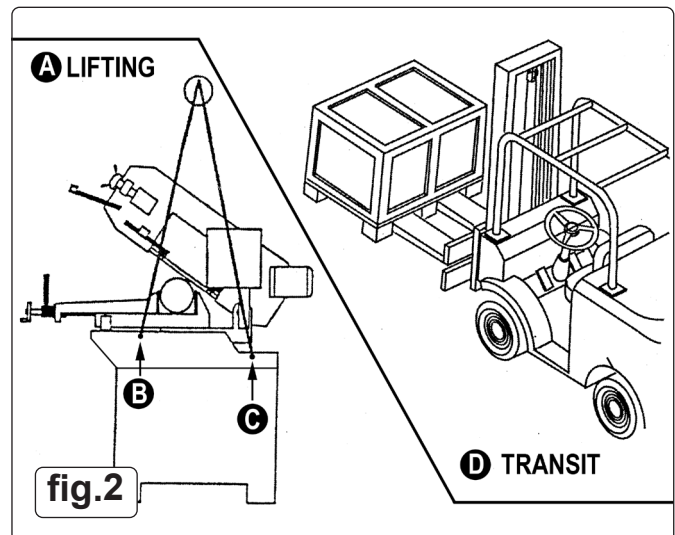

fig.2
- 4.1.2. A suitably rated crane used together with chains and shackles should be used to lift the machine onto the sheet metal stand and also to lift the whole assembly into its intended position. See lifting points B & C in Fig.2 above. Alternatively, slings can be used under the vice either side of the central pivot. Great care should be taken to keep the load level and to ensure that the slings **DO NOT** apply pressure to components that should not be heavily stressed.